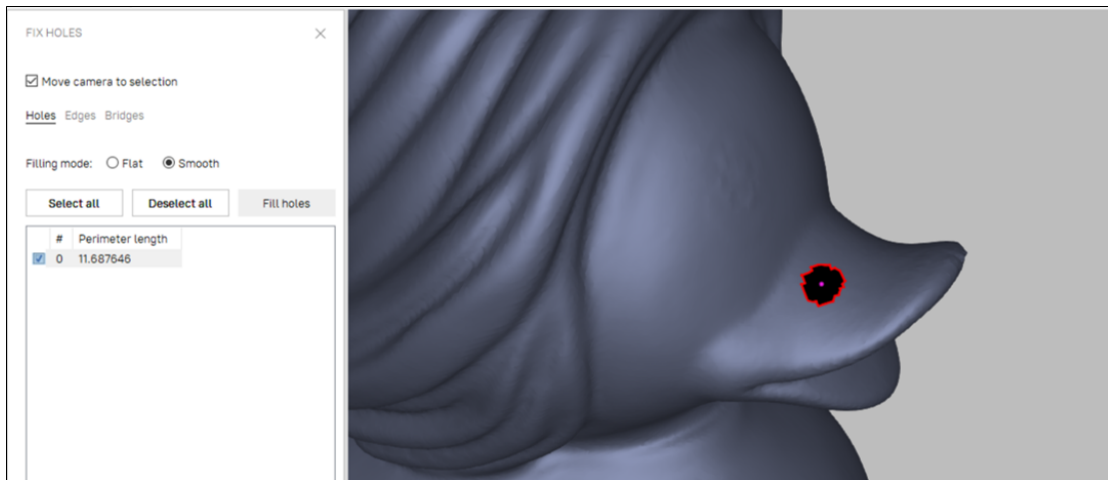

Figure 142: One hole on a curved surface, marked for correction.
3. Select a hole either in *3D View window* or mark the checkbox next to it in the list. Artec Studio will highlight these holes in red (see Figure 142).